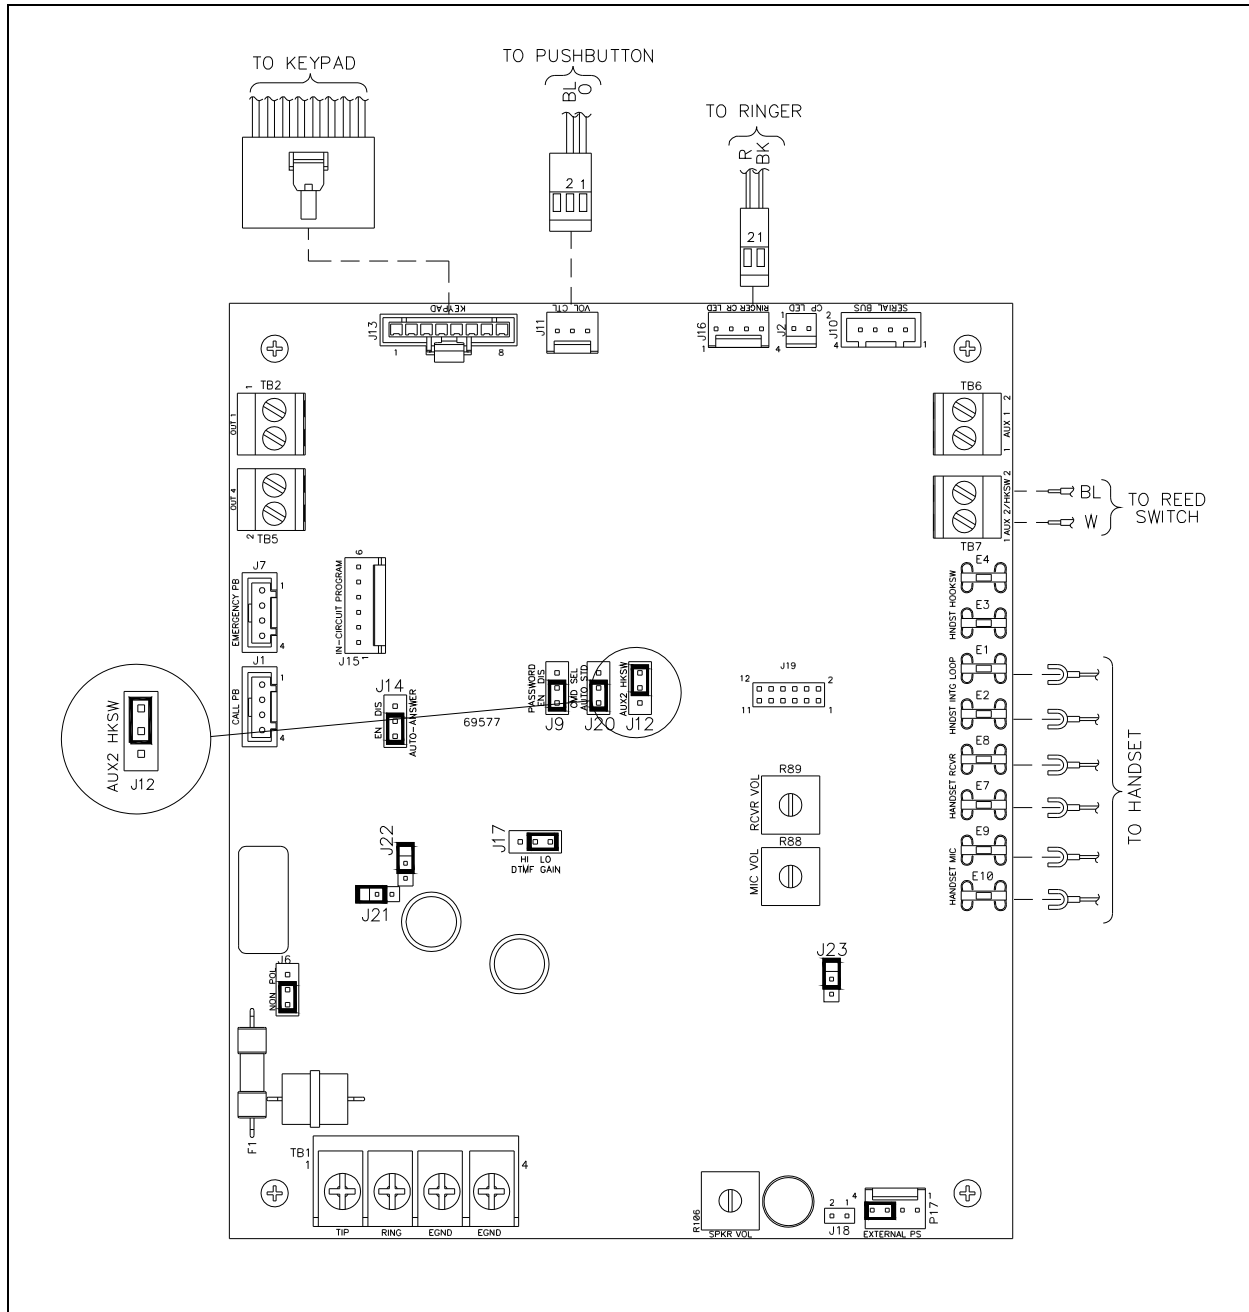

Figure 1.
4. Refer to Figure 1 for locations of the connectors on the new PCBA. (**NOTE:** Keypad connector is used in Models 246-003 and 256-003 only.)
6. Move jumper J12 from its current position to that shown in Figure 1.
5. Refer to Figure 1 for locations of the connectors on the new PCBA. (**NOTE:** Keypad connector used in Model 276-003 only.)
7. Move jumper J12 from its current position to that shown in Figure 1.